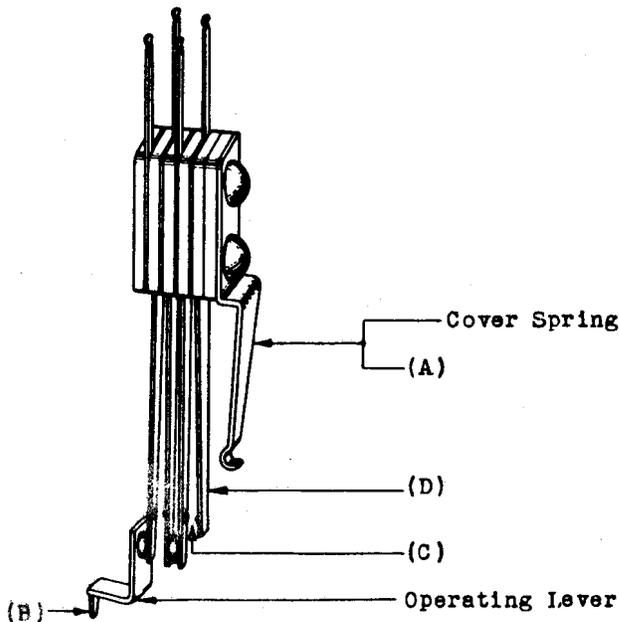

Fig. 3 - Spring Assembly - Externally Adjusted Dashpot Relay
- 2.03 Cover Spring Tension - Fig. 3 (A) - (Externally Adjusted): The cover spring shall hold the cover firmly in place. Gauge by feel.
- (a) Externally Adjusted - Fig. 3 (B) - The operating lever shall operate without bind. Gauge by feel.
- 2.06 Contact Separation - Fig. 3 (C) - The separation between any pair of contacts normally open or between any pair of contacts that are opened when the relay is operated shall be
- (b) Fig. 3 (D) - In the case of a make-make spring combination this requirement applies only to the contact making last.